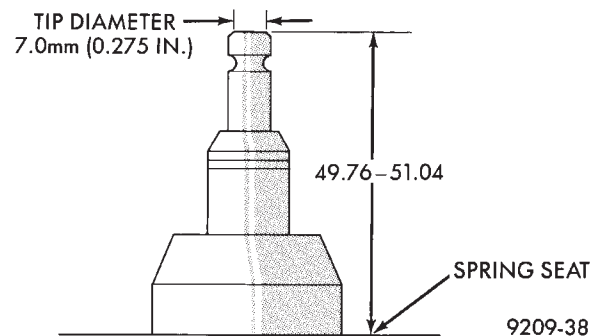

Fig. 24 Valve Tip to Valve Spring Seat Dimensions
(7) Check valve tip to valve spring seat dimensions after grinding to seats or faces. Grind valve tip to give 49.76 to 51.04mm (1.960 to 2.009 inch) over valve spring seat when installed in the head (Fig. 24). The valve tip diameter should be no less than 7.0mm (0.275